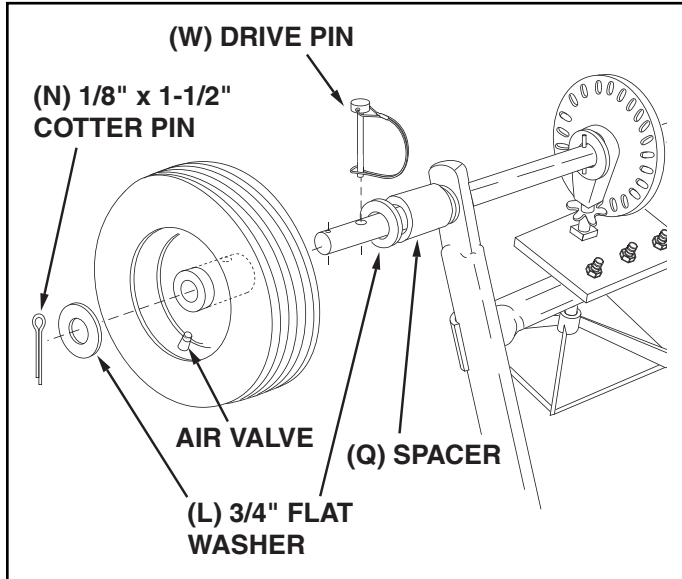

FIGURE 4
9. Assemble a spacer (Q), a 3/4" flat washer (L), a wheel (air valve facing out) and another 3/4" flat washer (L) onto the end of the axle that has both the **large and small holes**. See figure 4.
10. Install a 1/8" x 1-1/2" cotter pin (N) into the small hole in the end of the axle. See figure 4.
11. Open the bail on the drive pin (W) and install it through the wheel and the large hole in the axle. Close the bail to lock the pin in place. See figure 4.
(Refer to figure 4 on page 5.)